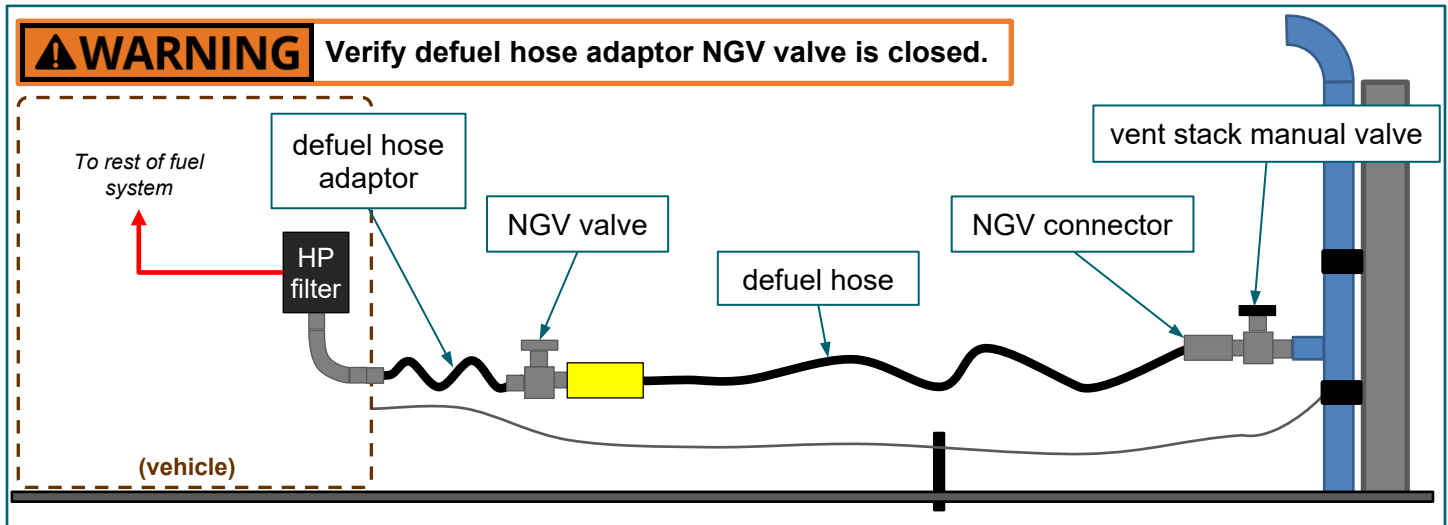

FIGURE 3-10. Defuel hose adaptor; defuel hose NGV connector end attached to vent stack receptacle
9. Attach connector end of defuel hose to vent stack receptacle. NOTE: Use Hexagon Agility® defuel hose p/n 20100021 if hose is not provided. **FIGURE 3-10**